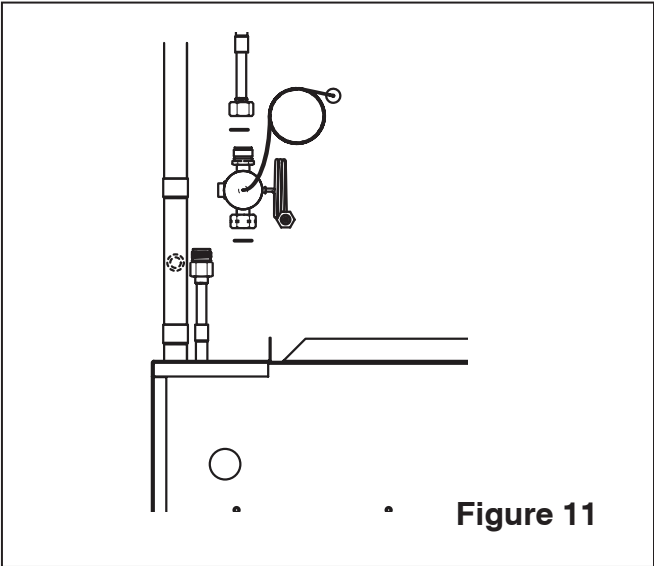

Figure 11
- DO NOT oil threads. To install the TXV, install one new O-ring over the Distributor Fitting (Figure 11). Install the other new O-ring over the Liquid Line Fitting and connect the adapters by hand to ensure proper mating of threads. The new O-rings are supplied in the kit. Tighten until bodies "bottom" or a definite resistance is felt. The valve will only fit in one direction of flow. Use a back-up wrench and tighten an additional 1/6 turn.